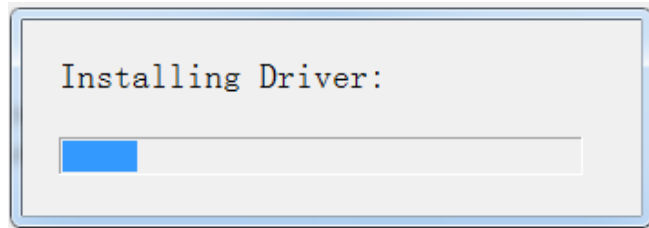

Fig. 2-4 Installing driver
5. During the installation period, the system will automatically update driver program, as shown in Fig. 2-4. If the auto update failed, you need to update it manually. See Section 2.2.3 for details